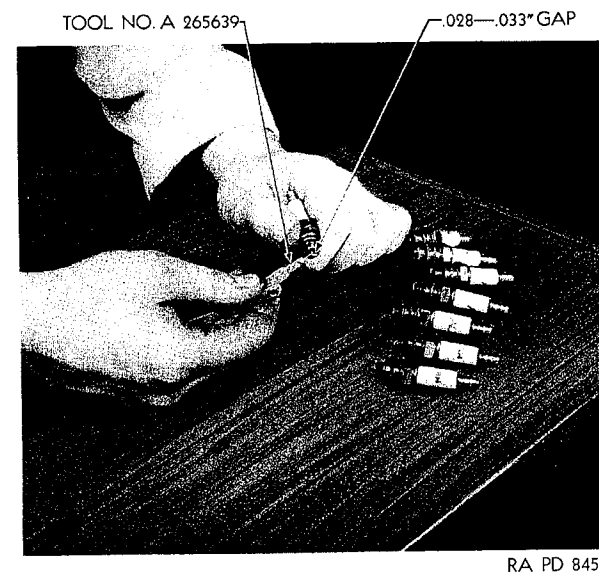

Figure 25—Checking Spark Plug Gap
d. Spark plug electrode gap should be checked with special spark plug gauge, part of Special Tool No. A-265639, not with a feeler gauge, (Fig. 25). The correct gap is .028" to .033" for all spark plugs.